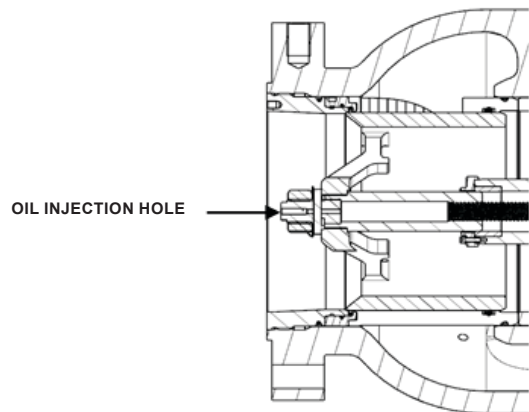

Figure 7. Oil Injection Hole Schematic
- Assemble O-rings (keys 10, 36 and 37), disk (key 38) and seal ring retainer (key 35) on the disk holder (key 4). Tighten the screw (key 34) in seal ring retainer. For sizes DN 150 to 250 / NPS 6 to 10, assemble only the O-ring and disk on the disk holder.
- Screw disk holder assembly into the body (key 5). Disk holder (key 4) outer surface must be aligned with mating surface of body flange. Disk holder should not protrude outside the body flange mating surface. The trim must be kept in fully closed position.
- Tighten nut (key 33) and then bend the washer (key 65) to touch with the nut. Bend in no less than three places. Then inject a moderate amount of lithium-based grease into the grease chamber (see Figure 7). Then tighten bolt (key 73). When tightening the nut (key 33), hold the screw (key 31) firmly with a wrench.
- Assemble drive shaft (key 49) with key (key 17), bearing (key 42), bonnet (key 15) and vent (key 63). Pay attention to the bonnet and vent direction. Tighten the stud bolt (key 44) and nut (key 41) with washer (key 45). Rotate drive shaft to check if it can move the sleeve (key 6). Assemble end cap (key 22) with O-ring (key 21) then tighten the screw (key 51) with washer (key 52).